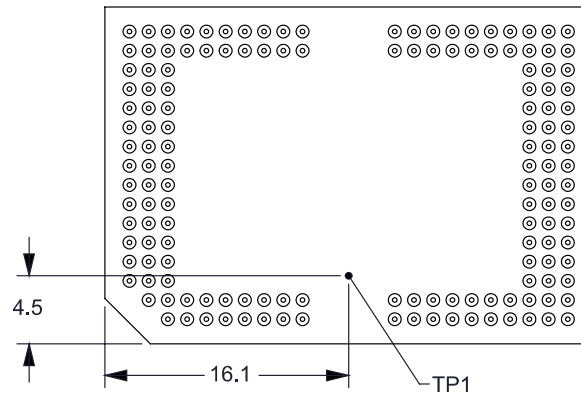

图 7-4. DMD Thermal Test Points
When designing the DMD heatsink solution, the package thermal resistance from array to reference ceramic temperature (thermocouple location TP1 in 图 7-4) can be used to determine the temperature rise through the package as given by the following equations:
- T_{CERAMIC} = measured ceramic temperature, at the TP1 location in 图 7-4 (°C)
- Q_{ARRAY} = total power, electrical plus absorbed, on the DMD array (W)
- $Q_{\text{ELECTRICAL}}$ = nominal electrical power dissipation by the DMD (W)
- $Q_{\text{ILLUMINATION}}$ = absorbed illumination heat load (W)
- Q_{INCIDENT} = incident power on the DMD (W)